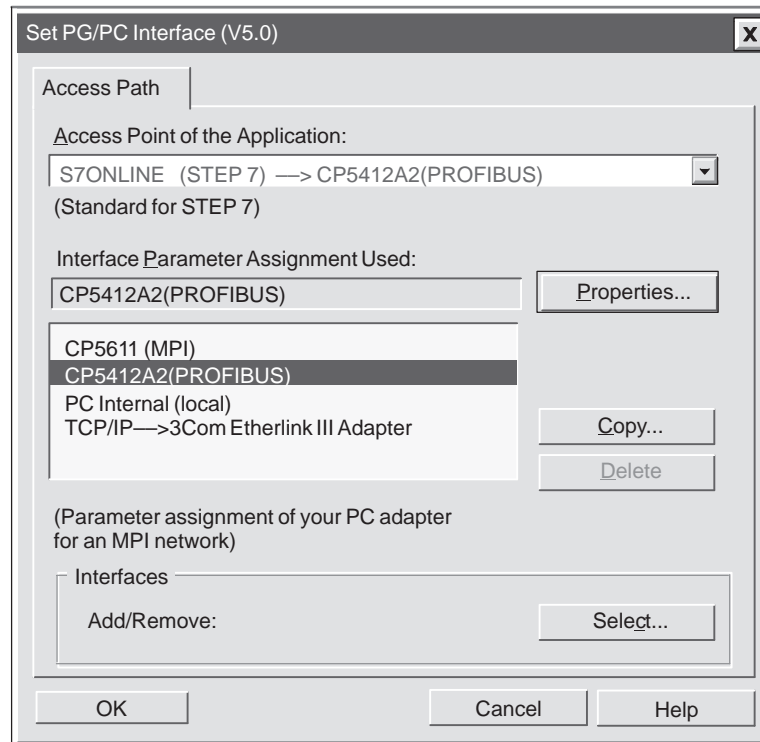

Figure 3-5 Setting the PG/PC Interface
1. Access the interface configuration tool through WinLC. Use **(CPU ► Setting the PG/PC Interface** (Figure 3-5).